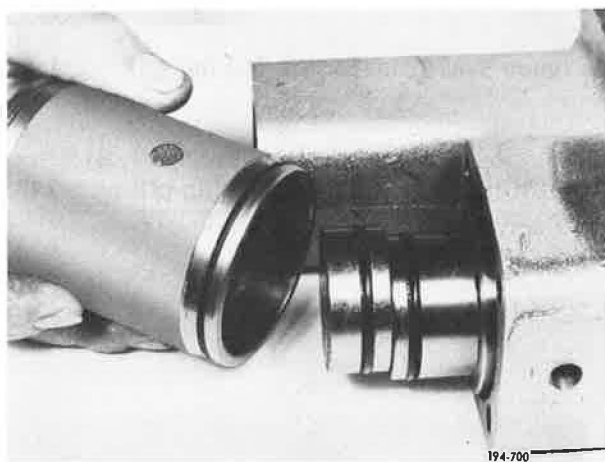

Figure 5-879. Installing Shift Cylinder
13. Install Hi/Direct shift cylinder onto shift cover, by sliding it over the end of the Hi/Direct shift rail. See **Figure 5-879**.